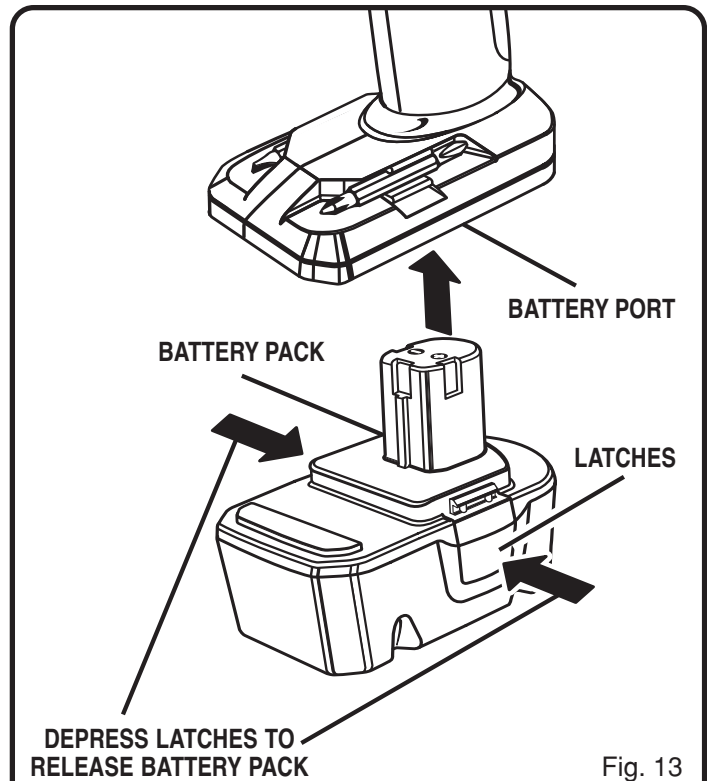

Fig. 13
- Place the battery pack in your drill. Align raised rib on battery pack with groove in drill's battery port. See Figure 13.
- Locate latches on side of battery pack and depress both sides to release battery pack from your drill. See Figure 13.